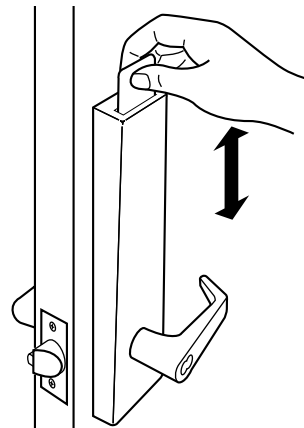

Figure 20
- 1 With the temporary operating instructions facing toward you, insert and remove the temporary operator card (see Figure 20).